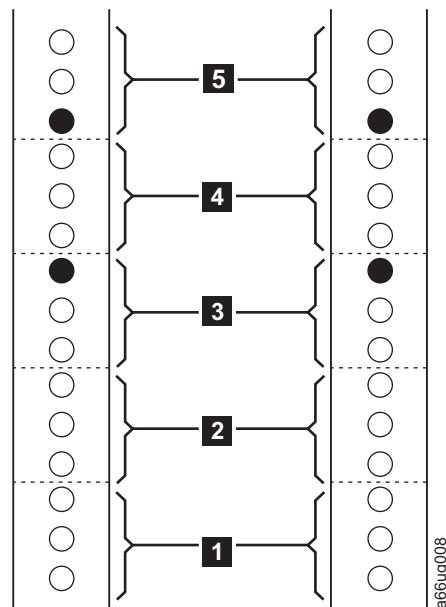
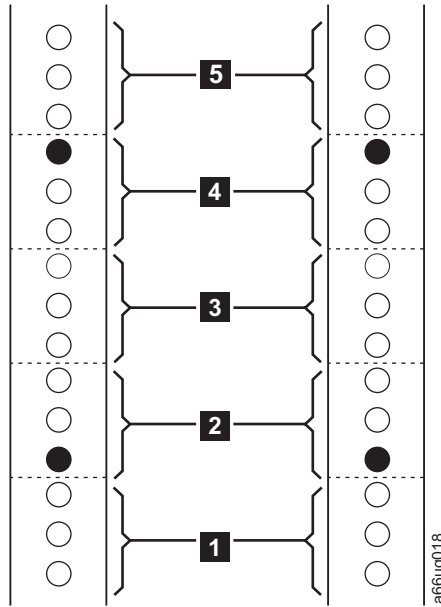

Figure 3-15. EIA identification and rail stud locations for FRONT vertical rack rails
Figure 3-16. EIA identification and rail stud locations for REAR vertical rack rails
An industry-standard rack will have 3 mounting holes for each EIA increment (see Figure 3-15 on page 3-15).
1. Using a pencil, make a mark below the first hole (**1** in Figure 3-15 and **1** in Figure 3-16 on page 3-16) in each of the five EIAs you've selected for the rails in each vertical rail in your rack.
2. Locate and mark the holes that will receive the rail studs as indicated by the black filled circles in Figure 3-15 and Figure 3-16 on page 3-16. The rail studs are located on the front and back of each rail included in the Rack Mount Kit.
- Top hole of the third EIA (**3** in Figure 3-15).
- Bottom hole of the fifth EIA (**5** in Figure 3-15).
- Bottom hole of the second EIA (**2** in Figure 3-16 on page 3-16).
- Top hole of the fourth EIA (**4** in Figure 3-16 on page 3-16).
- Top hole of the first EIA (see Figure 3-15 on page 3-15)
- Top hole of the second EIA in the vertical rack rails (see Figure 3-15 on page 3-15)